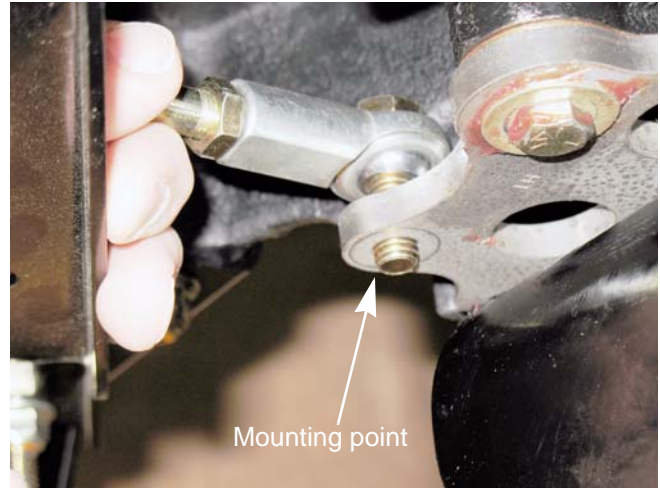

Figure 6.8
10. Adjust the tie rods until the ends line up with their mounting point. See Figure 6.8.